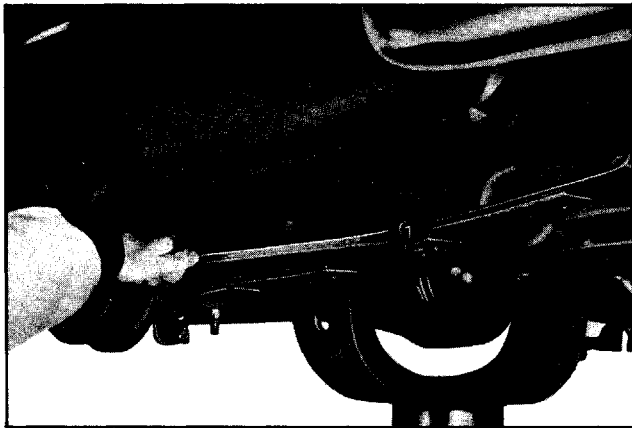

Fig. 4-60 Bending Spring Clips
2. Bend spring clips outward (Fig. 4-60). **NOTE:** Do not bend clips by prying against ends from top of spring. To do so may cause breakage.